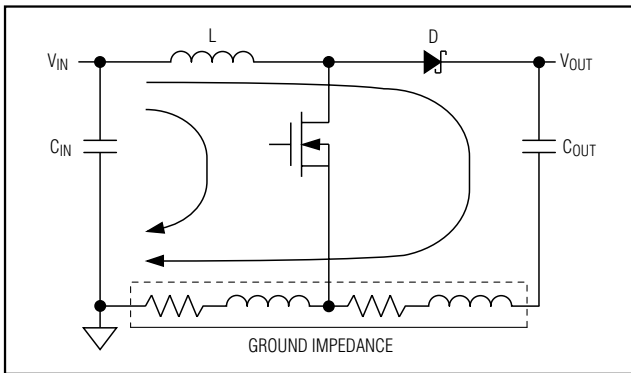

Figure 12. High-Current Loops of Step-Up Regulator
- 1) The high-current loops of the main step-up regulators are shown in Figure 12. Minimize the area of these loops by placing the input bypass capacitors, output diode, and output capacitors less than 0.2in (5mm) from the LX and PGND pins. Connect these components with traces as wide as possible. Avoid using vias in the high-current paths. If vias are unavoidable, use many vias in parallel to reduce resistance and inductance.